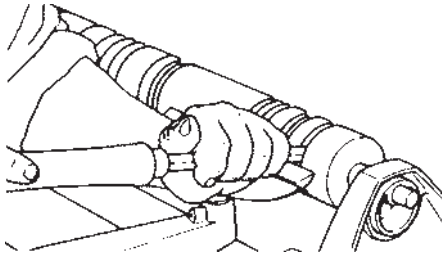

Figure C-45
- b. Turn on the machine and increase the speed slightly. With a parting tool, cut grooves in the stock. See Figure C-45. Use calipers to check the diameters.